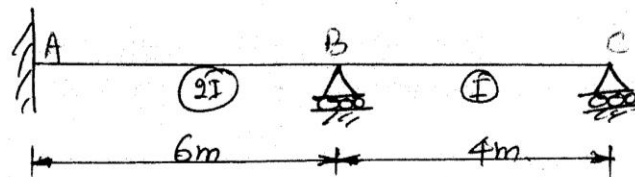

Figure-2
2. Analyse the continuous beam ABC as shown in figure-2, if the support 'B' sinks by 10 mm. Given that $E = 200 \text{ kN/mm}^2$ and $I = 10^8 \text{ mm}^4$.